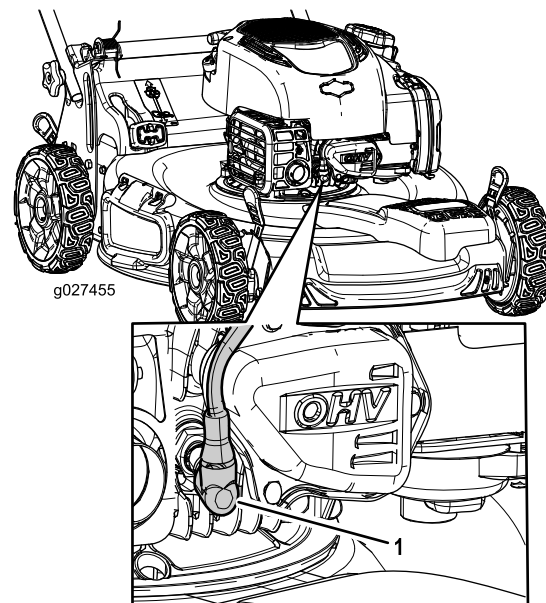

Figure 19
- Disconnect the spark-plug wire from the spark plug (Figure 19).